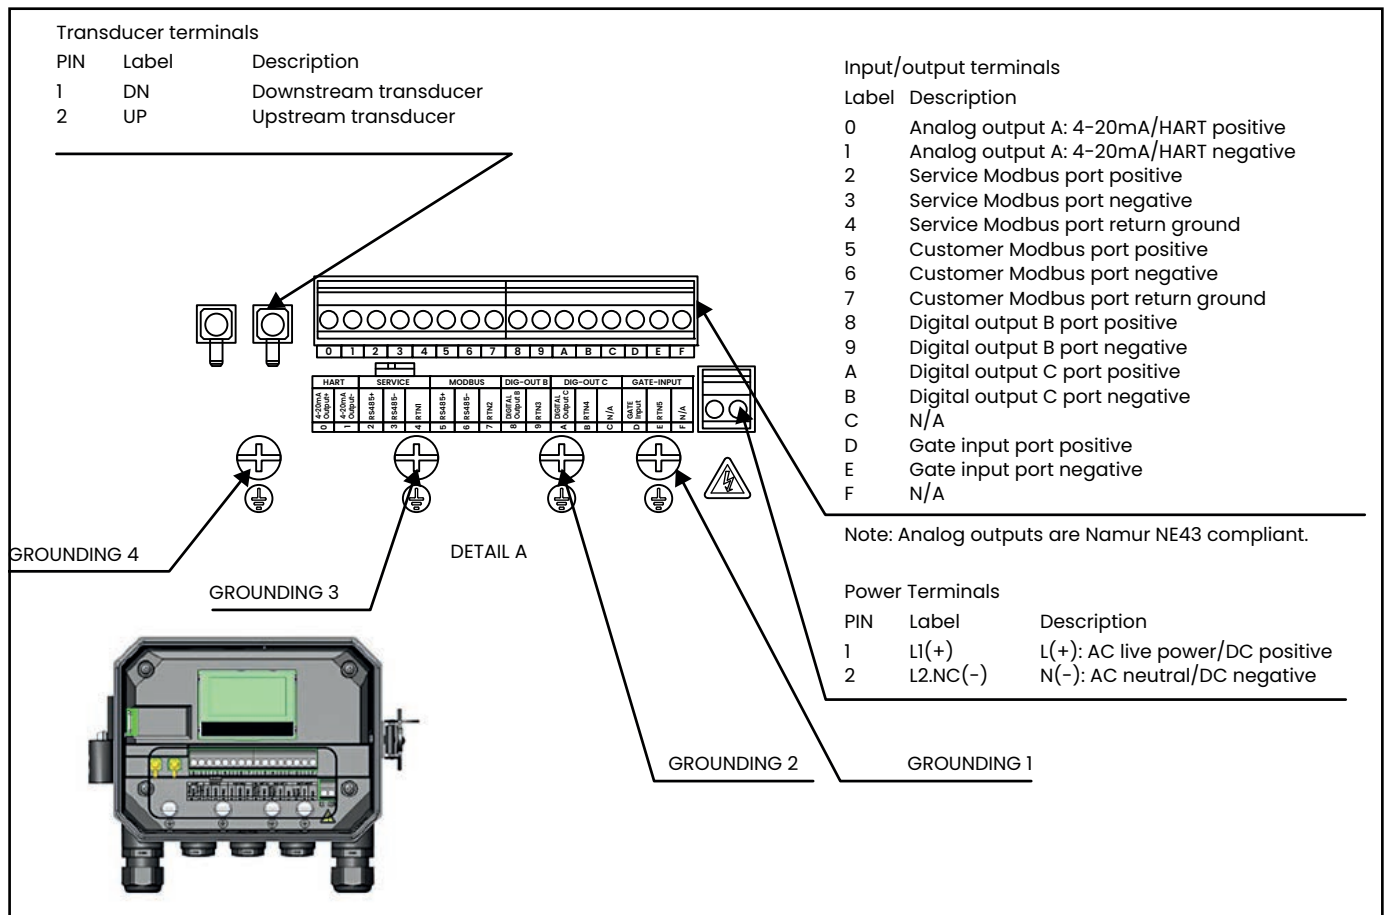
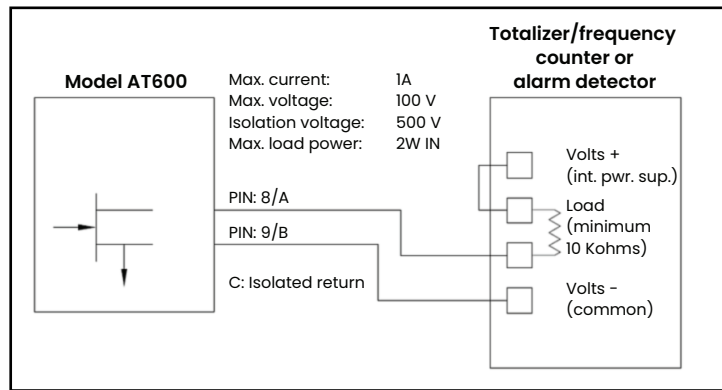
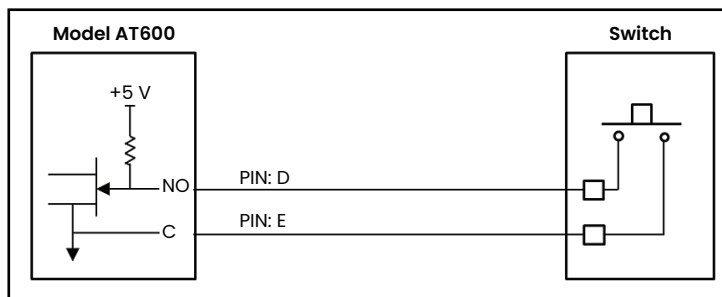

Figure 23: Wiring Diagram
Figure 27: Totalizer/Frequency/Alarm Output Wiring
Figure 28: Gate Input Wiring
2. Connect the power and transducer cables to the AT600, as shown in *Figure 23 on page 19*
This section includes instructions for making all the necessary electrical connections to the AT600 flow meter. Refer to Figure 23 below for the complete wiring diagram of the meter.
Refer to *Figure 23 on page 19* to locate the terminal block and connect the line power as follows:
2. Connect the ground lead to the internal ground connection (GROUNDING 1) located on the bottom panel of the electronics enclosure (See *Figure 23 on page 19*).
3. Connect the neutral AC lead (or the negative - DC lead) to L2/N(-) and the AC line lead (or the positive DC lead) to L1(+), as shown in *Figure 23 on page 19*.
2. Connect the cable connector with yellow DN jacket on the cable to the DN terminal, and connect cable connector with white UP jacket on the cable to the UP terminal, as shown in *Figure 23 on page 19*.
3. Refer to *Figure 23 on page 19* for the location of terminal block I/O, and wire the terminal block as shown above.
To wire the Modbus RS485 serial port, refer to *Figure 23 on page 19* above and complete the following steps:
The AT600 can accommodate up to two digital outputs. Each of these outputs can be configured as either a totalizer, frequency or alarm output (see “*Programming Digital Communications*” on page 51 for instructions). Each totalizer/frequency/alarm output requires a twisted pair cable. Wire the terminal block as shown in Figure 23 on page 19 and Figure 27 below.
To wire the Gate input, refer to Figure 23 on page 19 and Figure 28 below and complete the following steps: